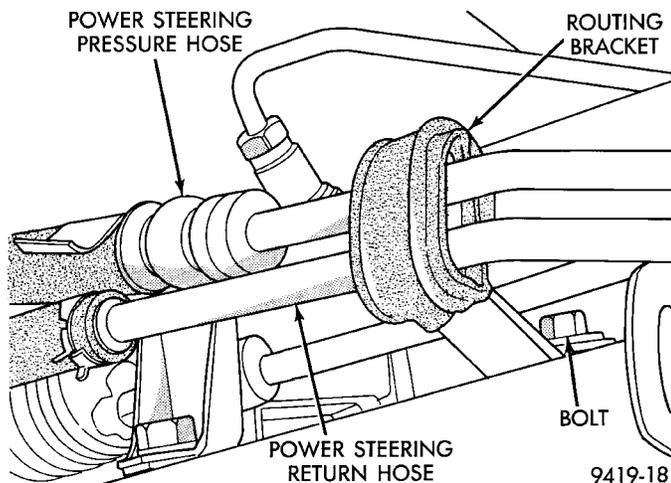

Fig. 9 Power Steering Pressure And Return Hose Routing Bracket
(8) If vehicle is equipped with power steering, remove power steering pressure and return hose routing bracket from front suspension crossmember (Fig. 9). **The hose routing bracket does not have to be removed from the power steering pressure and return hoses.**
CAUTION: Before removing front suspension crossmember from the vehicle, the location of the front suspension crossmember **MUST** be scribed on body of vehicle per (Fig. 9). This must be done so crossmember can be relocated against body of vehicle in the same location when it is reinstalled. If location of front suspension crossmember to body of vehicle is not maintained when vehicle is assembled, **NET BUILD** front suspension alignment settings will not be obtained. This may lead to handling and or tire wear problems.
(5) If vehicle is equipped with power steering, install power steering pressure and return hose routing bracket and attaching screw on front suspension crossmember (Fig. 9). Torque hose routing bracket to crossmember attaching bolt (Fig. 9) to 23 N-m (17 ft. lbs.).